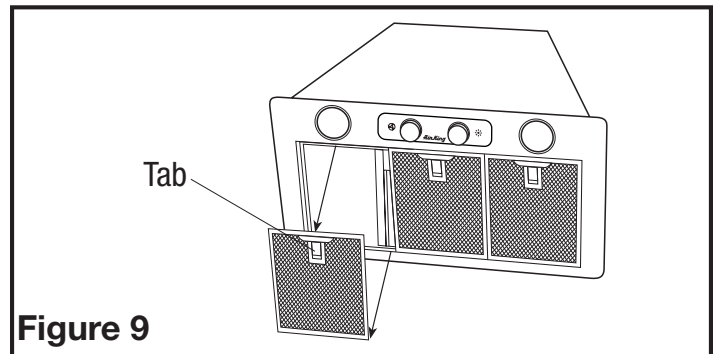

Figure 9
- To remove the filters, pull down on the handle tab until the filter releases from the unit. To reinstall, slide tab at rear of filter into slot in the unit. While holding in handle of filter, lift filter into place and release handle. The filter should snap securely into place (Figure 9).